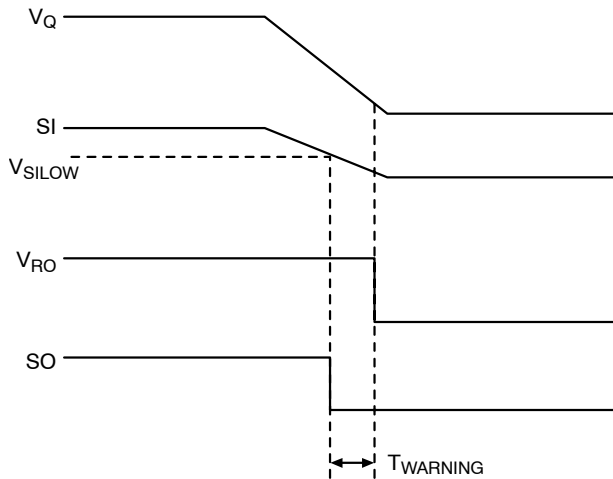

Figure 6. SO Warning Waveform Time Diagram
Figure 6 shows the SO Monitor timing waveforms as a result of the circuit depicted in Figure 5. As the output voltage (VQ) falls, the monitor threshold (VSILOW), is crossed. This causes the voltage on the SO output to go low sending a warning signal to the microprocessor that a reset signal may occur in a short period of time. TWARNING is the time the microprocessor has to complete the function it is currently working on and get ready for the reset shutdown signal.